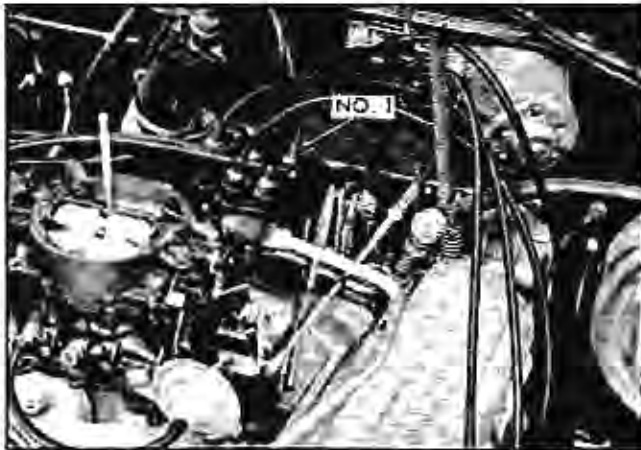

Fig. 11-64 Location of No. 1 Spark Plug Cable Terminal
6. Install spark plug wires in distributor cap. Place wire for No. 1 cylinder in tower shown in Fig. 11-64 (marked on old cap during disassembly) then install remaining wires counterclockwise around the cap according to the firing order (1-8-4-3-6-5-7-2).